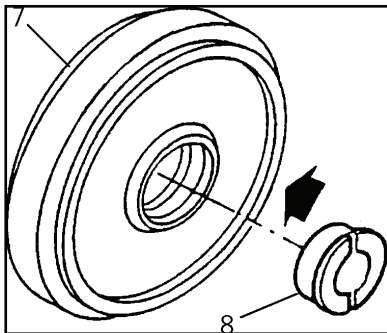

Fig. 3-50
1. Clean all parts thoroughly and be sure all mounting surfaces are free of nicks or burrs. Press bushings (8) into idler wheel (7). Fig. 3-50.